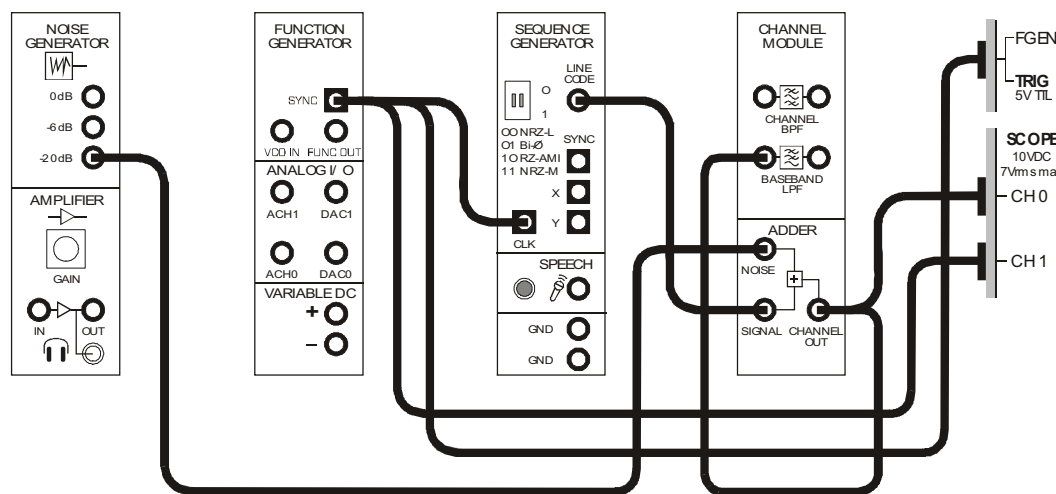

Figure 2
3. Connect the set-up shown in Figure 2 below.